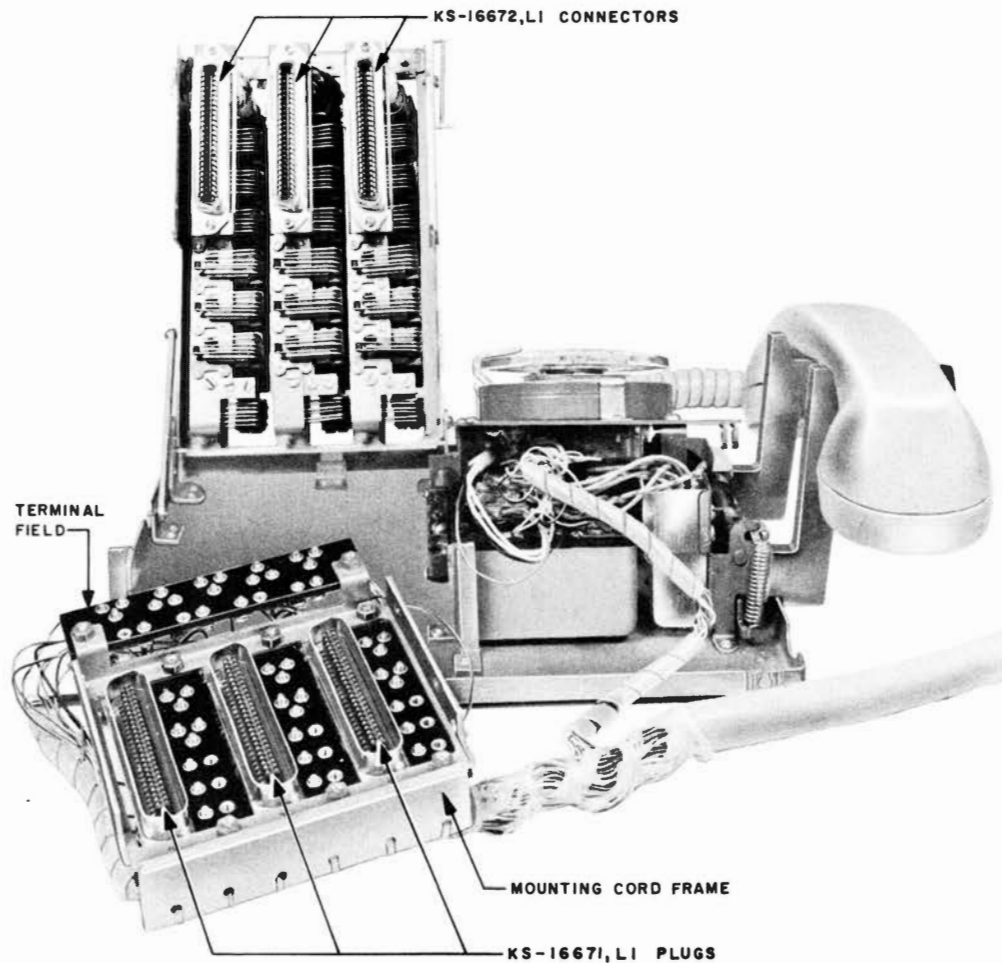

Fig. 16 — 600-Type Telephone Set Showing Removal of Cord Frame
6. Remove four screws which secure the cord assembly frame (Fig. 16).